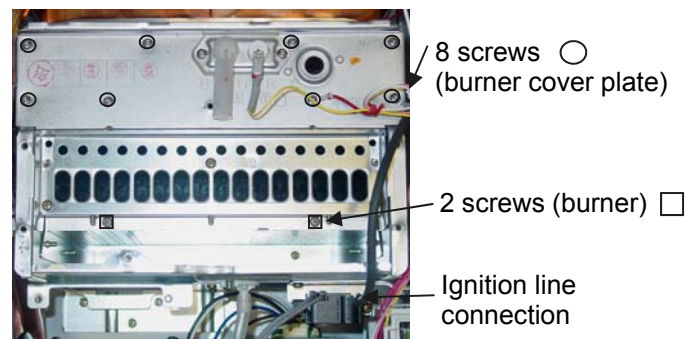

Figure 5
Remove Burner and Burner Cover Plate (Figure 5)
26. (Figure 5) Replace the combustion chamber packing (included in kit) removing any residue from old packing. Insert the burner and place the burner cover plate into position. Attach the burner cover plate first with 8 screws and then attach the burner with 2 screws.